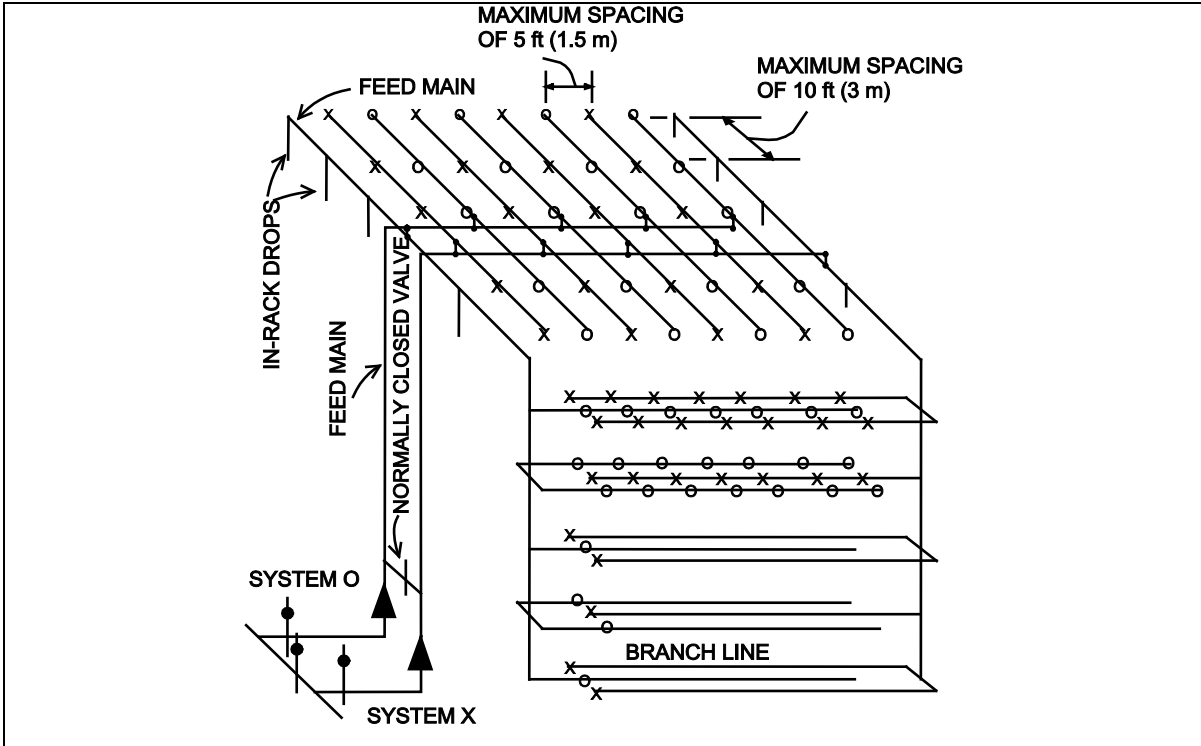

Figure 3. "Checkerboard" Ceiling
Exception: Where a "Checkerboard" ceiling sprinkler system is employed as shown in Figure 3, the ceiling system could be fed by the in-rack risers. Maximum spacing per head for this system is 50 ft² (4.65 m²). The maximum area protected by the two risers is 40,000 ft² (3720 m²) for each set of risers. Each riser should be sized for feeding simultaneously the required ceiling sprinkler density/area of application as well as the required number of in-rack sprinklers.
- **Exception:** Where a "Checkerboard" ceiling sprinkler system is employed as shown in Figure 3, it is permissible to have 2 tier levels, or approximately 10 ft (3 m) of storage above the top level of in-rack sprinklers.